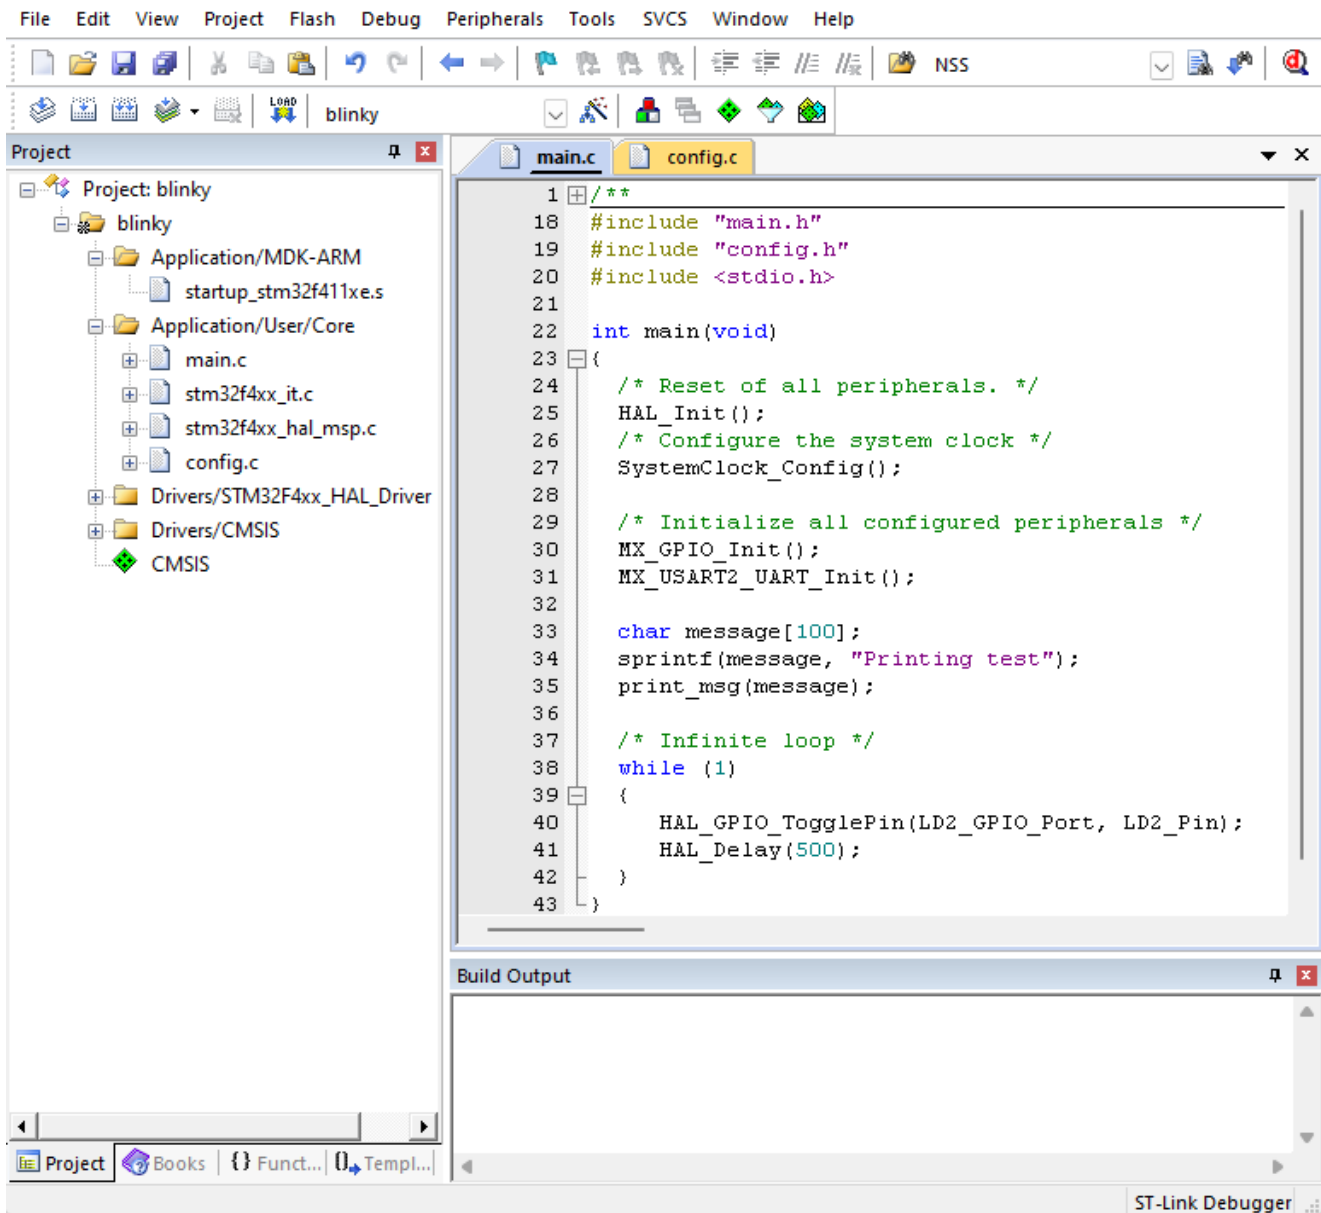

Figure 2. The Keil μVision IDE showing the *blinky* program.
**The Keil  $\mu$ Vision IDE interface:** At first you will only see the *Project explorer* window on the left. This shows you the hierarchy of your entire project. As you can see, even for a very simple program, a large number of files are included in the project. Expand the *Src* folder and open *main.c*. You should see the window shown in Figure 2.
**Understanding the provided code:** We will now go through and explain the code shown in Figure 2. After including the necessary header files, `main.c` has prototypes for functions declared later in the file. In `main()`, there are several functions with initialize different board peripherals. We won't go into the specifics of each of them but to give you an idea of what each of them does (and to give you a preview of what you will learning throughout the course), they are: